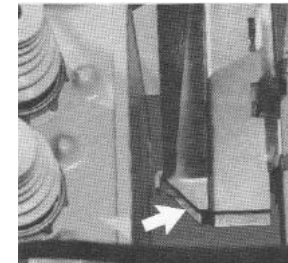

Figure 33
- **Fix apparatus to support by bolt M8x25** (figure 33)